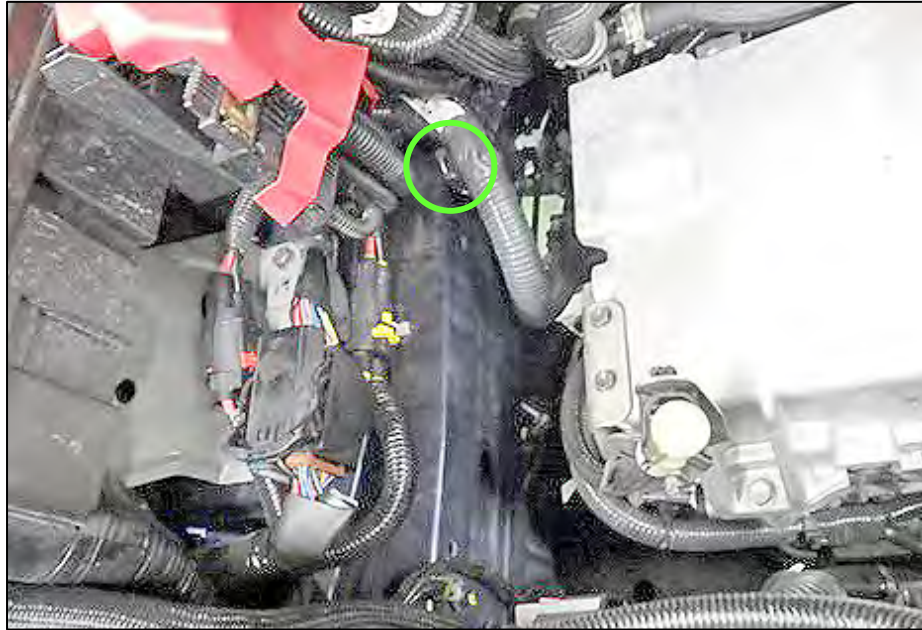

Figure 37
56. Detach the wiring harness from its bracket where shown in Figure 37.